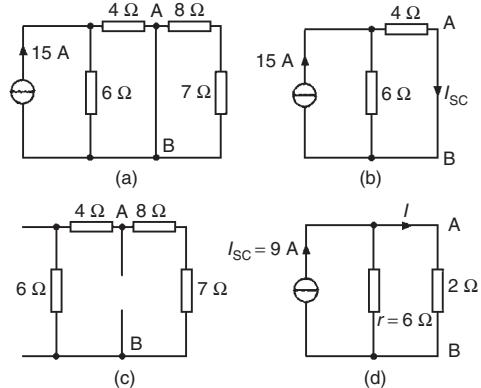

Figure 13.63
- (i) The 2Ω resistance branch is short-circuited as shown in Fig. 13.63(a)
- (ii) Fig. 13.63(b) is equivalent to Fig. 13.63(a). Hence
- (iii) If the 15A current source is replaced by an open-circuit then from Fig. 13.63(c) the resistance 'looking-in' at a break made between A and B is given by $(6 + 4) \Omega$ in parallel with $(8 + 7) \Omega$, i.e.
- (iv) From the Norton equivalent network shown in Fig. 13.63(d) the current in the 2Ω resistance is